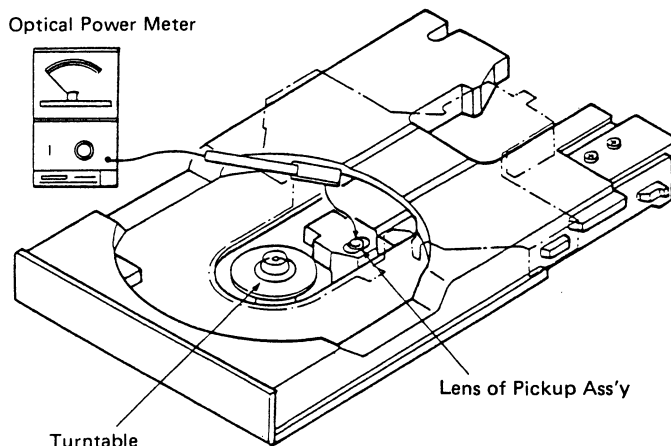

Fig. 3.3
- (1) Remove the Top Cover Ass'y referred to in item 2.1 on page 4.
- (2) Short-circuit TP105 and TP106 located on the Servo P.C.B. Ass'y.
- (3) Place the optical power meter against the pickup (Fig. 3.3), and check that the laser power is between 0.15mW and 0.4mW.